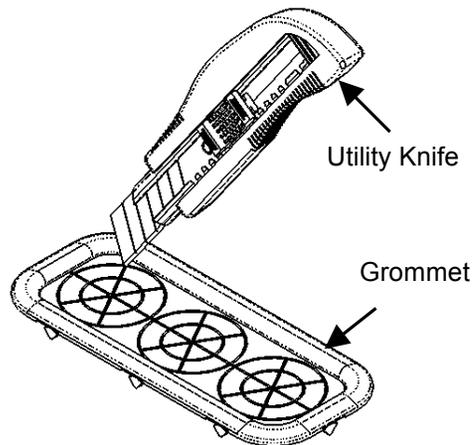

Fig. 2
2. Use utility knife to cut minimum material required to route cabling (Fig. 2).